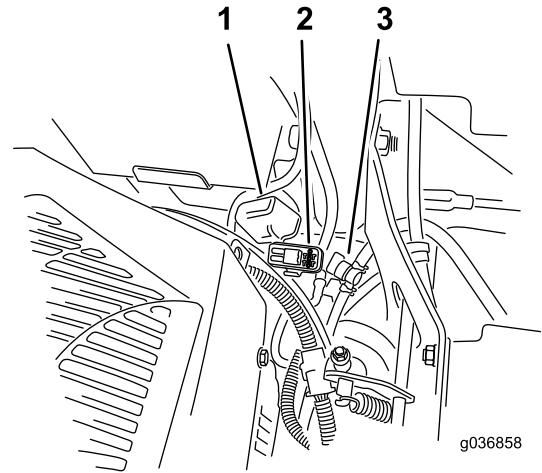

Figure 70
Note: For MyRide machines, ensure that the ground cable does not rub against the trailing arm or lower shock mount (Figure 70).
The fuses are located on the right console next to the seat (Figure 70).
2. Install a new fuse (Figure 70).